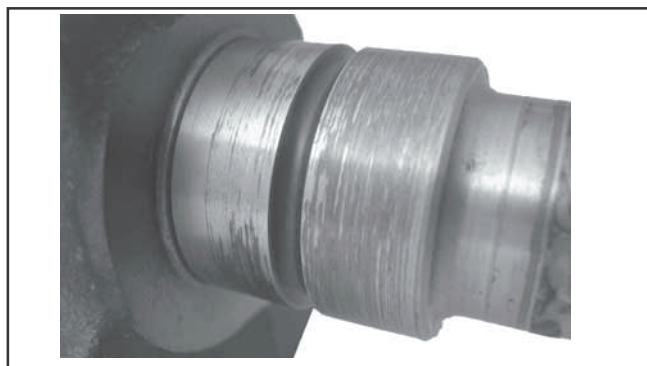
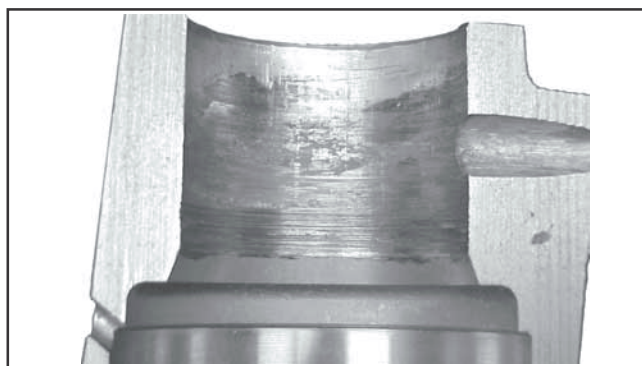

Figure 1.
Figure 2.
The flywheels are very similar in outward appearance, but they can be distinguished by the small single hole on the machined flange surface. On flywheel **24 025 25-S**, the identification hole is 4.0 mm (.157 in.) in diameter. On flywheel **24 025 15-S**, the hole is 5.15 mm (.202 in.) diameter, with a 6.7 mm (.263 in.) counter bore at the top. See Figures 2 and 3.
1. If there is an electric clutch on the engine, the problem may be due to shorted windings in the field coil that are feeding DC current into the crankshaft. To return to ground, the electrical current arcs through the oil film at the main bearing surfaces and erodes the bearings. See Figure 1. Use the clutch test (on page 2), to determine if the clutch is faulty. If a faulty clutch is transferred to a new engine or short block, it will destroy the bearings again in as few as 20-30 hours.
3. If the above steps have not revealed the cause, the problem may be due to excessive side load. Remove the crankshaft and inspect both main bearing surfaces in the crankcase. If arcing has occurred, the crankshaft and crankcase bearing surface will usually have in-line scoring around the circumference, similar to the crankshaft journal in Figure 1. From an excessive side load, the bearing damage will usually be more pronounced on one side, (toward the driven load), and the aluminum will often appear more wiped or smeared. See Figure 2. There may also be aluminum transfer onto the crankshaft, similar to a connecting rod seizure. Excessive side load is usually application related. Possible causes might be excess belt tension, failed bearings or some type of binding in the driven component, etc.